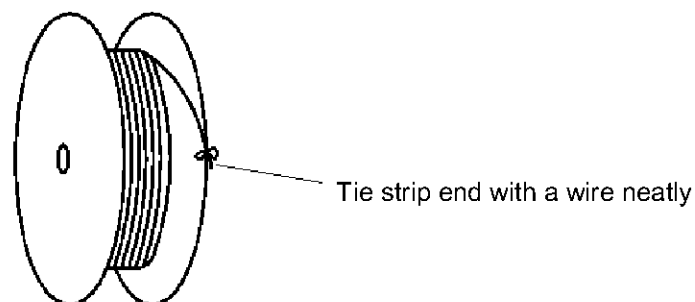

Fig.5
- (3) Avoid storing the contact reel in moist or dusty place. Stock the reel in a comparatively dry and clean place (5~35°C, 45~85%RH) away from direct sunlight.
- (4) When removing the contact reel from the machine, fasten the end of contact strip onto the edge of the reel with use of proper string or wire. (See Fig.5)